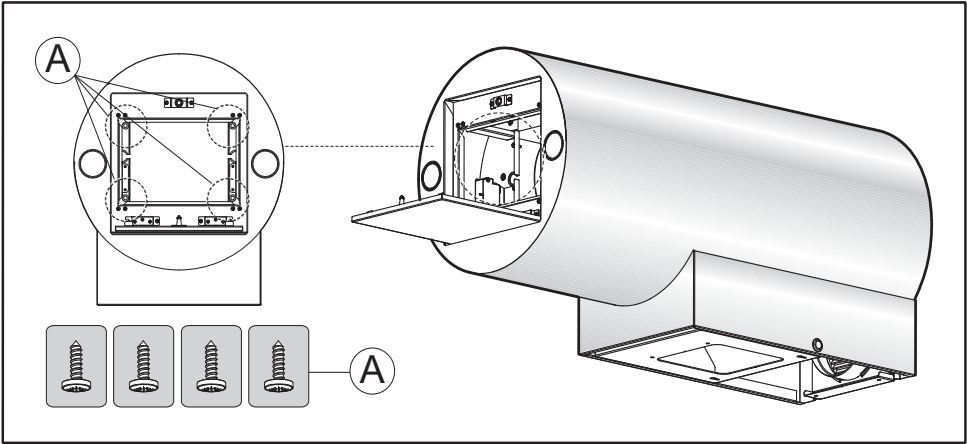

Fig.3
- Remove the four screws **A** as indicated in Fig. 3.